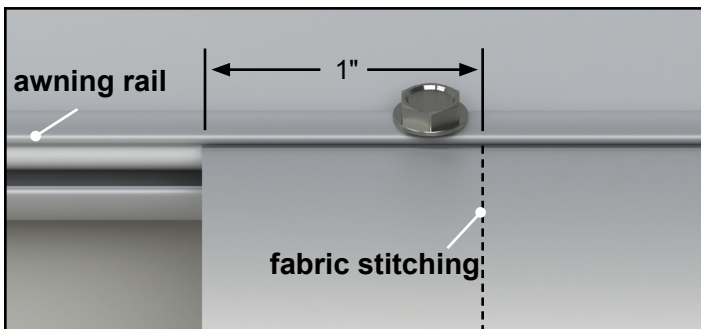

Fig.8
3. Install the screw down through the awning rail into the fabric and the polycord (**Fig.8**).